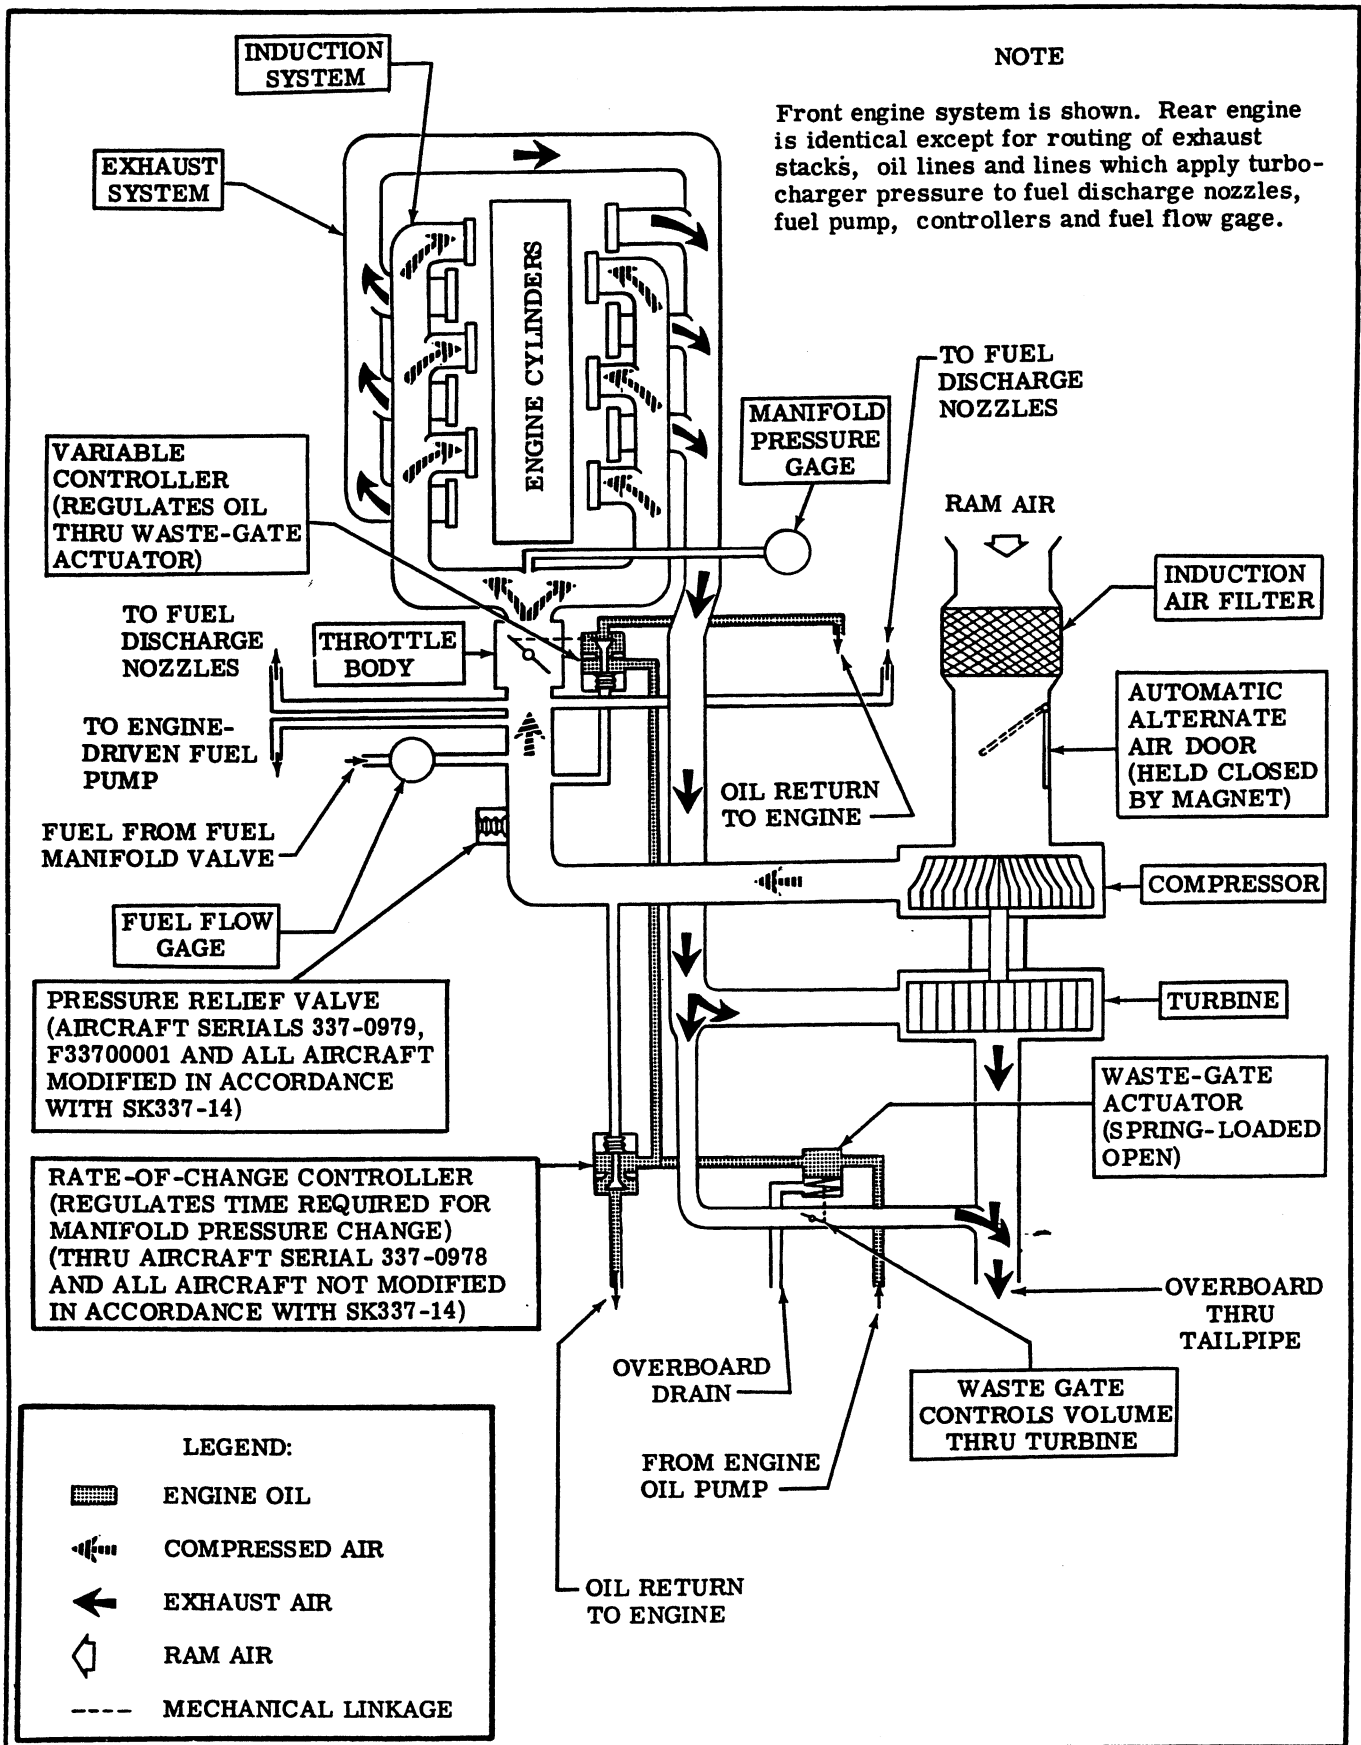

Figure 10A-5. Turbocharger System Schematic
1. (Refer to figure 10A-6.) Remove engine cowling as required for access to turbocharger components.
3. Loosen clamp (13) at turbine exhaust outlet and work tailpipe (16) from turbine and waste-gate outlets.
4. (Refer to figure 10A-8, sheet 1.) Remove the four bolts attaching waste-gate (15) and actuator (13) to the exhaust stack assembly. Tie waste-gate and actuator up to provide clearance for removal of the turbocharger.
5. (Refer to figure 10A-6.) Loosen clamps and remove compressor air outlet duct and compressor air inlet duct from compressor (10).
6. Disconnect oil inlet check valve (8) at adapter (15) and oil scavenger line (2) at adapter (11). Plug or cap disconnected lines and fittings.
7. Remove hardware attaching front mounting bracket (7) to engine.
8. Remove bolts, washers and nuts attaching turbine (14) to the exhaust stack assembly (5). Support turbocharger assembly as the bolts are removed and work assembly from aircraft through the cowl flap opening.
When installing a NEW turbocharger on the FRONT engine, it will be necessary to remove the six bolts attaching the exhaust turbine housing to the center section of the unit. Rotate the exhaust portion of housing 180 degrees. This is done so that oil outlet (11) in the center section will be pointed downward when installed in the aircraft. Also loosen the band on the compressor portion of turbocharger and rotate housing so that the outlet can be connected to the duct going to the throttle body. Refer to figure 10A-6 for torque value of bolts attaching center section to exhaust turbine housing.
9. Reverse the preceding steps for reinstallation. Install new gaskets between turbocharger and exhaust manifold and between waste-gate and exhaust manifold. Reinstall all safety wire where removed. Refer to figure 10A-6 for torque values of the attaching bolts.
1. (Refer to figure 10A-7.) Remove engine cowling and tail caps as required for access to the turbocharger components.
2. Remove clamp attaching waste-gate exhaust to tailpipe (12).
3. Loosen clamp at turbine exhaust outlet and work tailpipe (12) from turbine (9) and waste-gate exhaust.
4. Loosen clamps at compressor and slide coupler securing discharge tube (18) to compressor (7) upward.
5. Loosen clamps (5) and disconnect air inlet duct (6) from compressor (7).
6. Disconnect oil inlet line (17) from check valve (19) and scavenger line (8) from check valve (10). Plug or cap disconnected lines and fittings.
8. Remove bolts (14) securing turbocharger to support assembly (16) and bolts securing turbocharger to bracket (13). Support turbocharger as these bolts are removed.